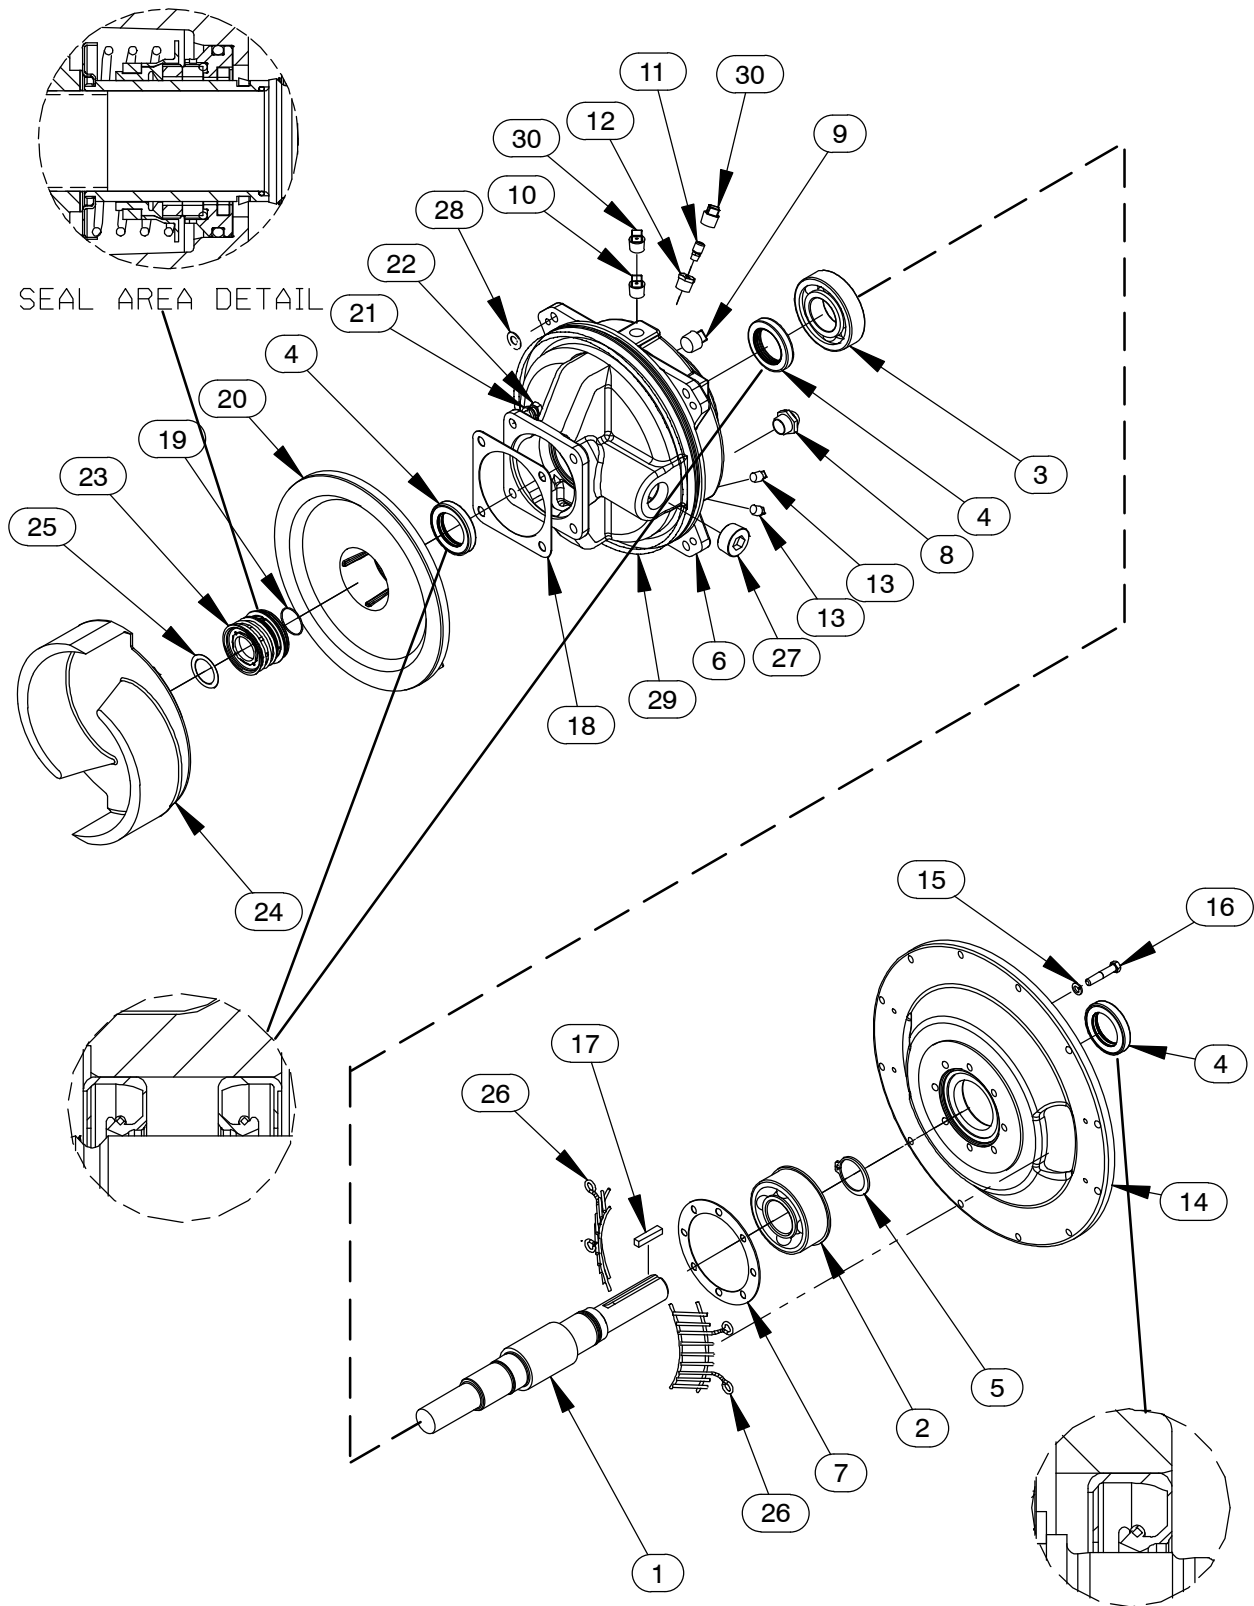

Figure 4. Repair Rotating Assembly
Disengage the hardware (7 and 8, Figure 3) securing the drive flange to the engine bellhousing, and remove the guards (26, Figure 4). Separate the pump end and drive assembly from the engine by pulling the pump end straight away from the engine.
To remove the coupling from the shaft, unscrew the two allen head setscrews from the bushing (1). Screw one of the setscrews into the puller hole on the circumference of the bushing. As the coupling and bushing separate, remove the bushing, and slide the coupling off the shaft. Remove the shaft key (17, Figure 4).